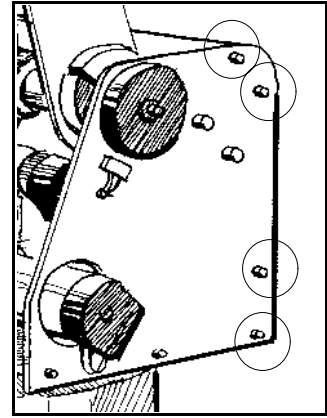

Figure 8-10: Shoulder Cover Screws
1. Refer to Figure 8-10. Remove the shoulder cover:
- Remove the screw which holds the long bracket to the transformer cover (see Figure 8-10).